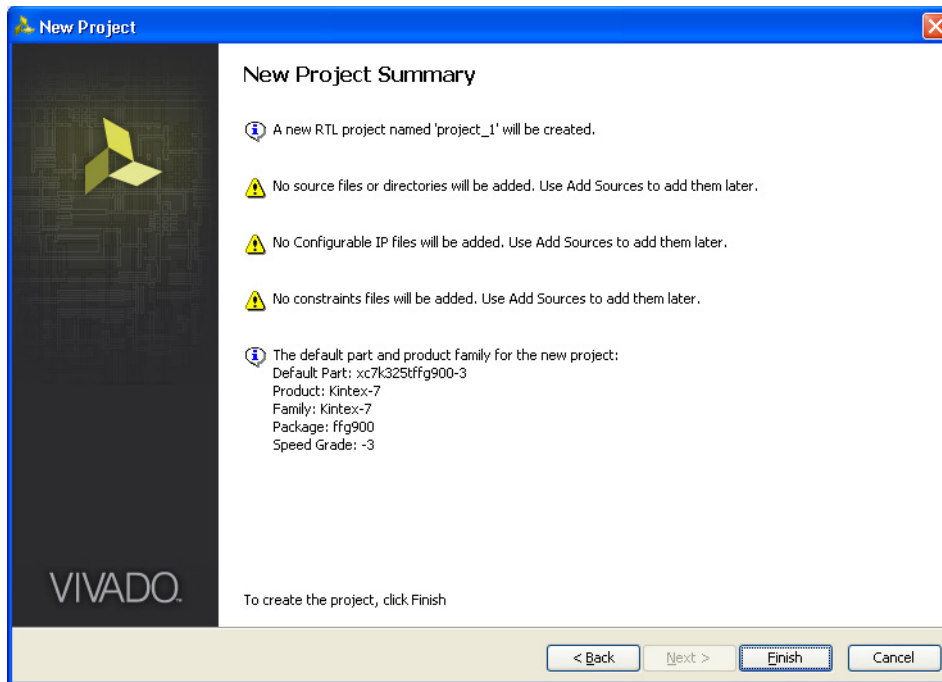

Figure 2-11: New Project Summary
9. Click **Next** to open the New Project Summary page (Figure 2-11). This includes the summary of selected project details.